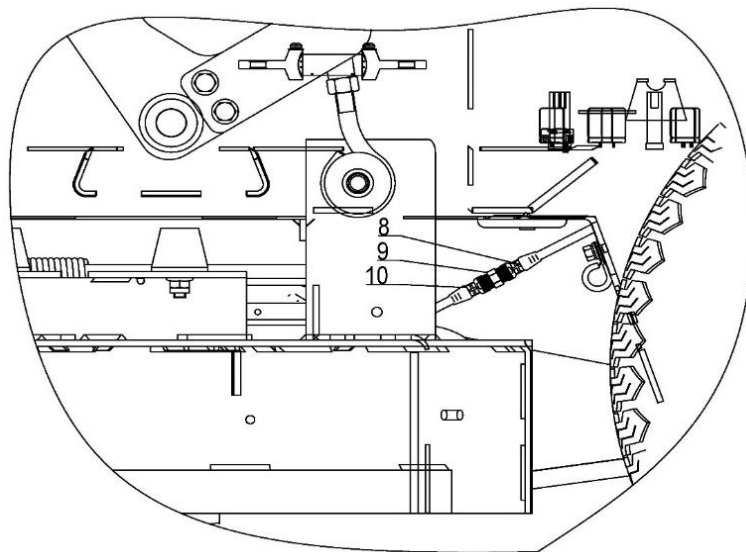

Fig. 2
1. Put the blade motor (7) into the mounting hole of the deck housing. Rotate the motor until the motor mounting hole aligns with the deck mounting hole.
2. Slip the spring washer (1) onto the bolt (2) in order. Apply thread locker on the end of the thread and manually screw the bolt clockwise into the motor mounting threaded hole. Each motor is fixed by six sets of such bolts.
3. Tighten the bolt (2) clockwise with a 13 mm socket wrench to a tightening torque of 23 N•m (17 Ft-lbs). Motor installation is complete.
4. Operate motor removal steps reversely, plug the blade power cord tail clip (8) and motor end tail clip (10) against each other respectively and fasten with the fastening nut (9) as shown in Fig. 2.